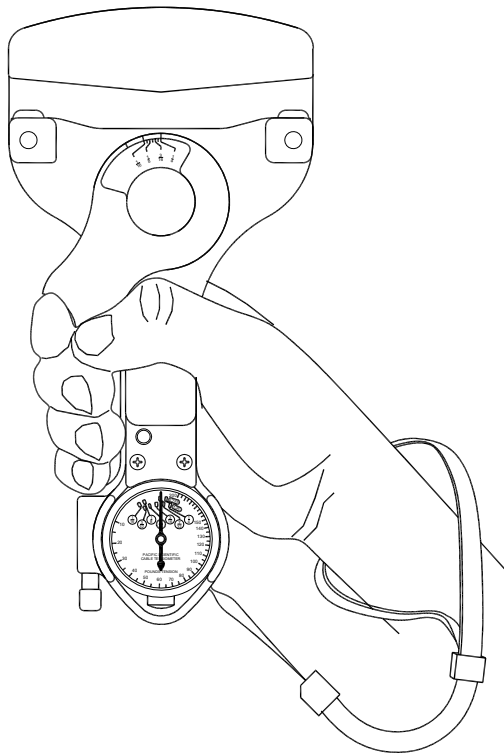

Figure 1.1- Wrist Band
- 3-1. PREPARATION FOR USE** - The cable Tensiometer is shipped by the manufacturer in its own carrying case and is ready for use, for avoid damage on common use, the operator shall be use the Wrist Band adjustable, see figure 1.1. Each time the cable Tensiometer is used it shall be removed from the case and the serial number stamped on the nameplate checked against the serial number on the tab of the calibration bar.